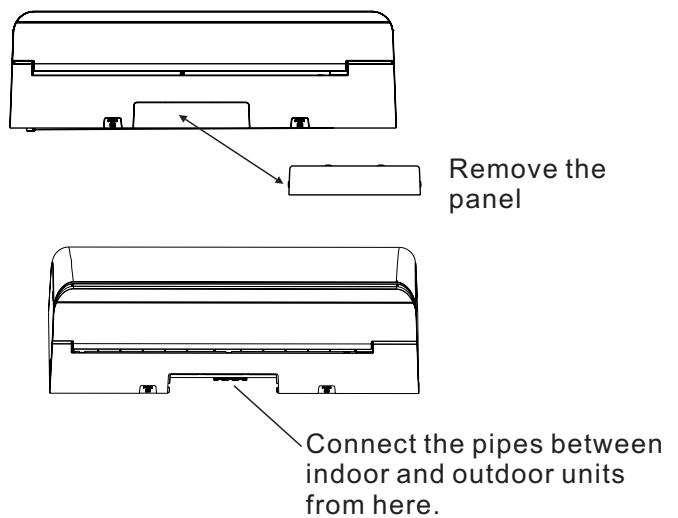
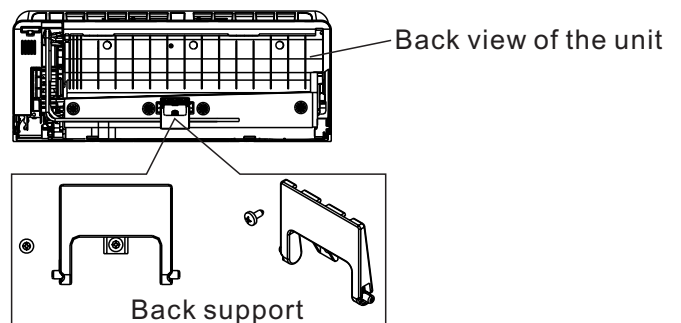
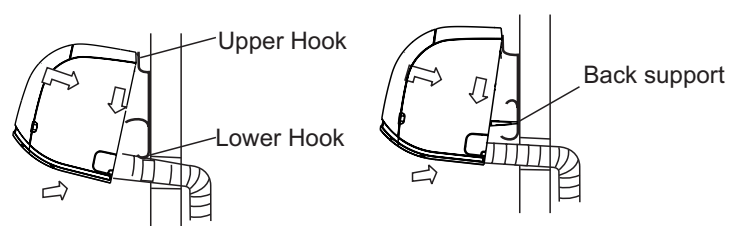

Fig.9
Fig.10
Fig.11
- For the left-hand piping or rear-left hand piping, you can hang up the unit on the installation plate first, then lift the indoor unit up by using the back support against the wall, see Fig.10. Then remove the panel in the middle of the bottom frame, connect the pipes as shown in Fig.9.
- Put the upper claw at the back of the indoor unit on the upper hook of the installation plate, move the indoor unit from side to side to see that it is securely hooked (see Fig.10 & Fig.11).
- Piping can easily be made by lifting the indoor unit using the back support against the wall (use only when the wall surface is non-smooth), see Fig.11. Ensure to remove the screw fixed on the back support first, then lift it up to support the indoor unit against the wall, see Fig.11. Lay it down after finish piping.